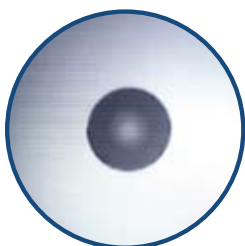

Figure 13 –
- **Video (Figure 13)** – small optical probe is connected to a handheld display. The probe size makes them excellent for examining ports that are in hard-to-reach places; large displays enable easy identification of end-face defects. They are also safer as they show an image and not the actual end-face being observed, reducing the risk of exposing one’s eye to harmful lasers.